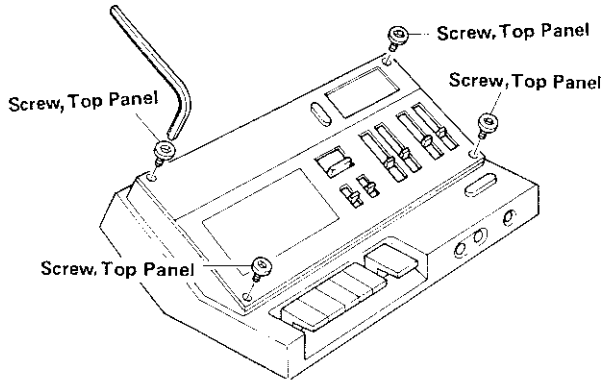

Fig. 1
- 1) Remove 4 screws. (Refer to Fig. 1)